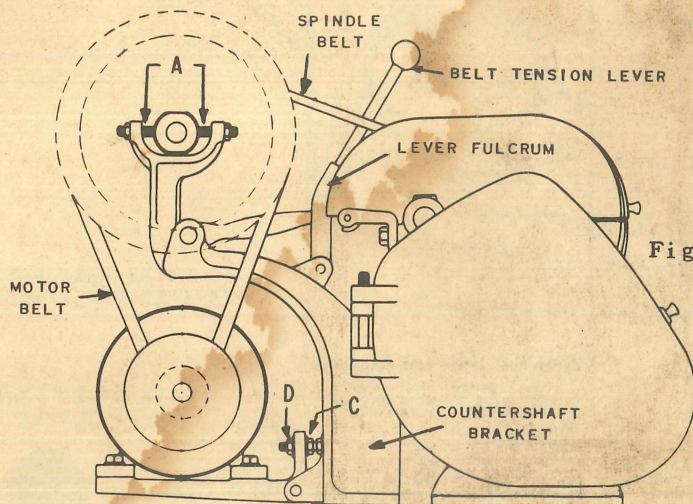

Figure 2
3. Loosen the two screws "A" (see Fig. 2), raise countershaft spindle, place spindle belt around the countershaft pulley, and retighten the screws. CAUTION -- The screws should be turned only until they touch the bottom of the bearing housing -- too much pressure will distort the housing and damage the bearings.
4. Screw belt release lever into lever fulcrum (see Fig. 2).
7. Fasten motor base to countershaft bracket with hinge shaft furnished (see Fig. 2). Place hex nuts (C) and (D) on adjusting screw (see Fig. 2).
4. Motor support bracket is hinged for easy belt tension adjustment. To adjust, merely turn hex nuts (C) and (D), (see Figure 2).